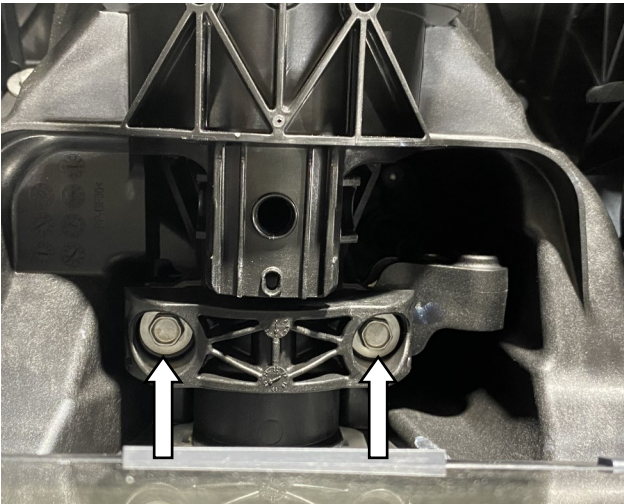

Figure 9
Remove bolts (2) securing steering shaft clamp and discard. Remove steering shaft clamp and discard. (See Figure 9)